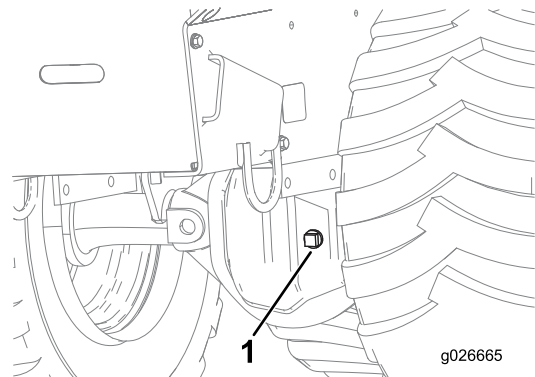

Figure 30
2. Remove the fill plug from one of the axle differentials (Figure 30).